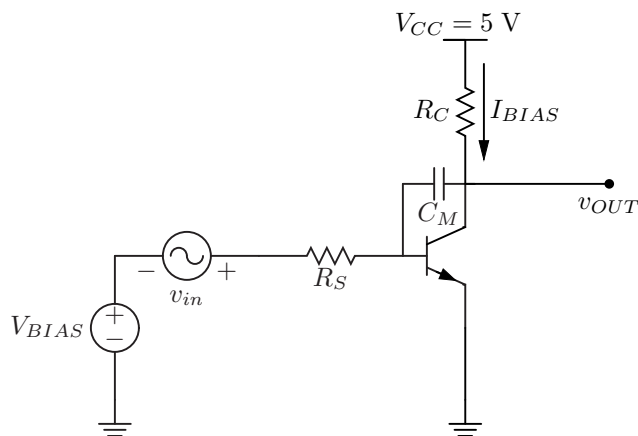

Figure 2: Miller capacitor test setup
1. The Miller effect can be best examined by introducing a Miller capacitor across the amplifier. Let's take a look at the impact of the Miller effect by adding a 1 nF capacitor for C_M as shown in Figure 2.